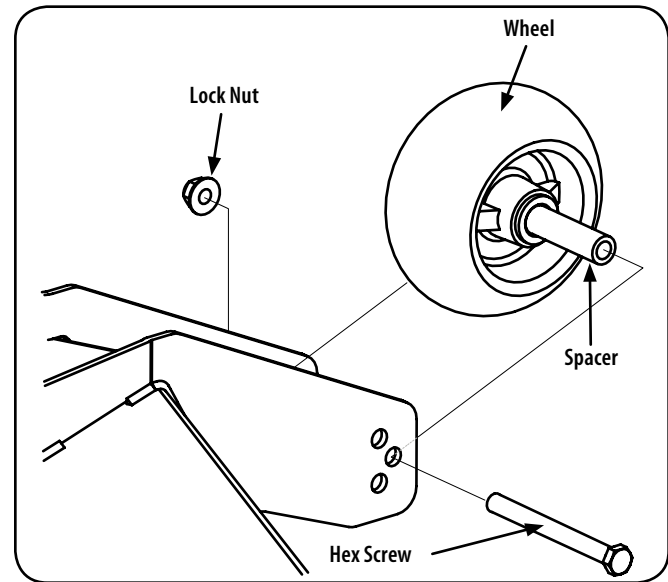

Figure 34
2. Remove the lock nut securing one of the front gauge wheel hex screws to the deck. Remove the gauge wheel, hex screw and spacer. See Figure 34.